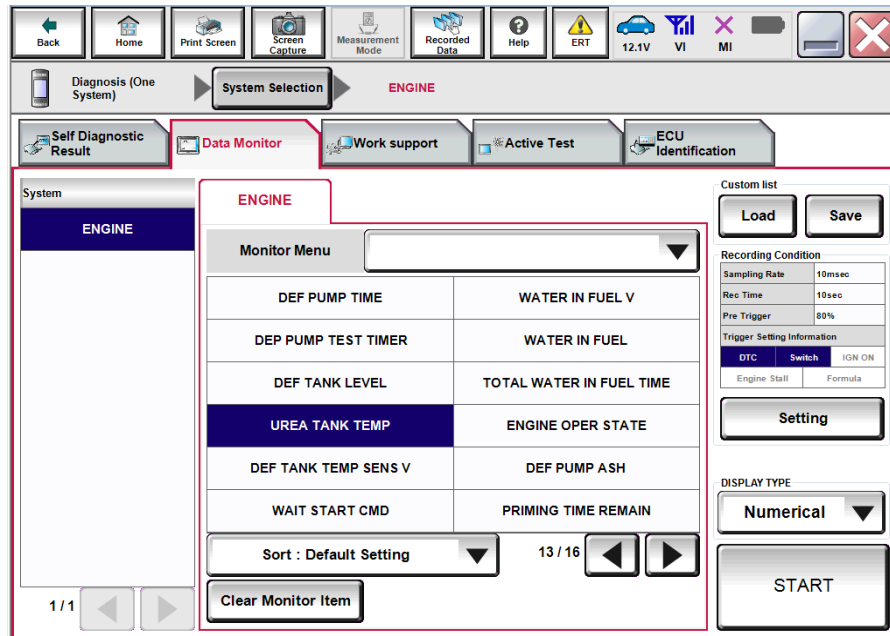
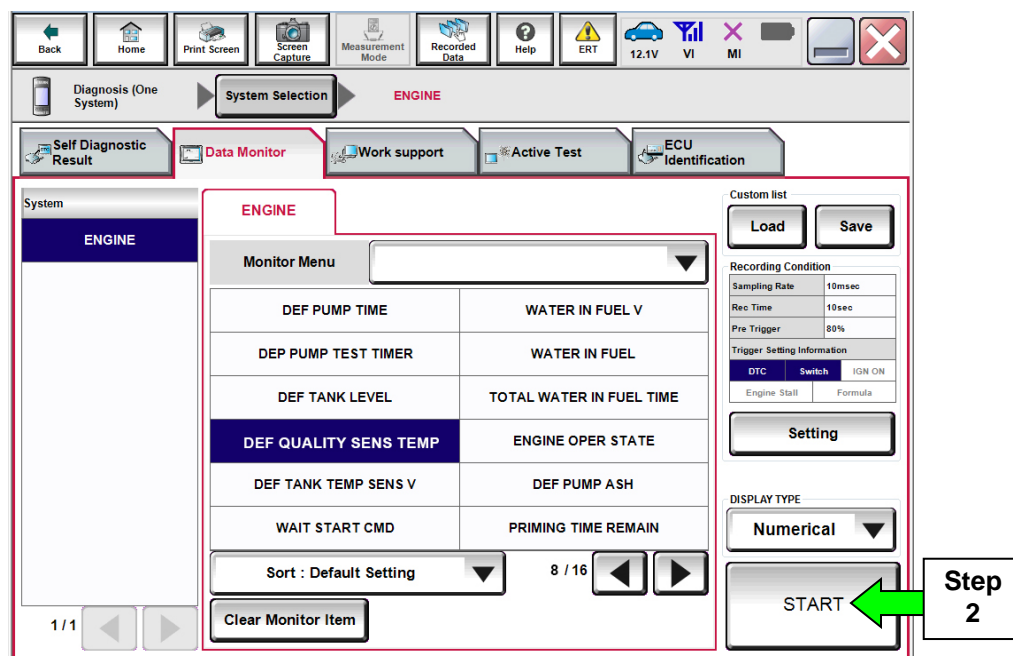

Figure 1B
Figure 2B
1. Navigate C-III plus to **Engine > Data Monitor** and select **UREA TANK TEMP** (see Figure 1B) and **DEF QUALITY SENSOR TEMP** (see Figure 2B).